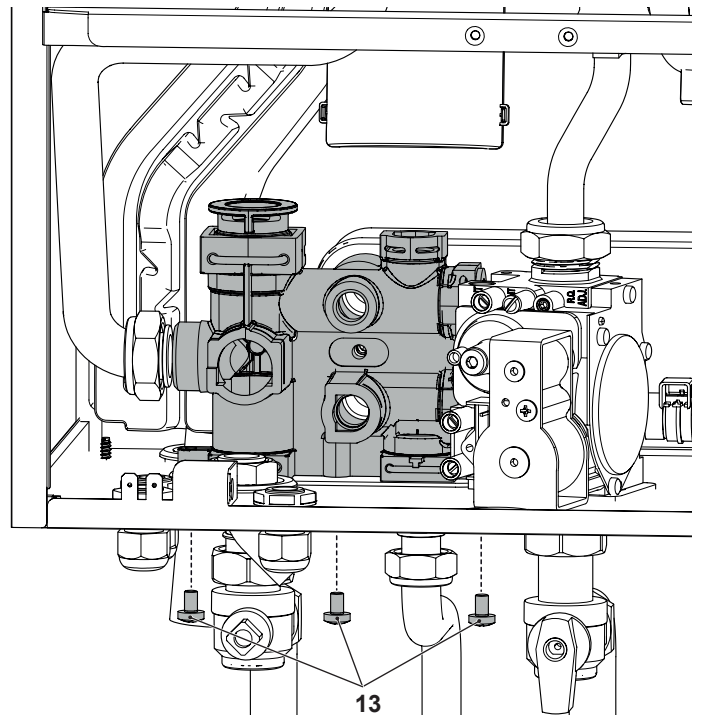

Figure 8.6
- 8 Unscrew the screws "13" (Figure 8.6) and remove the diverter group.